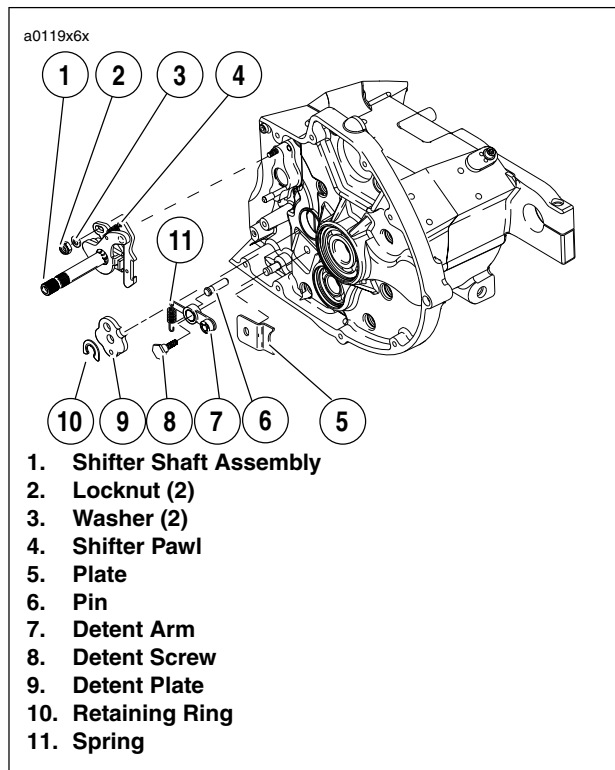
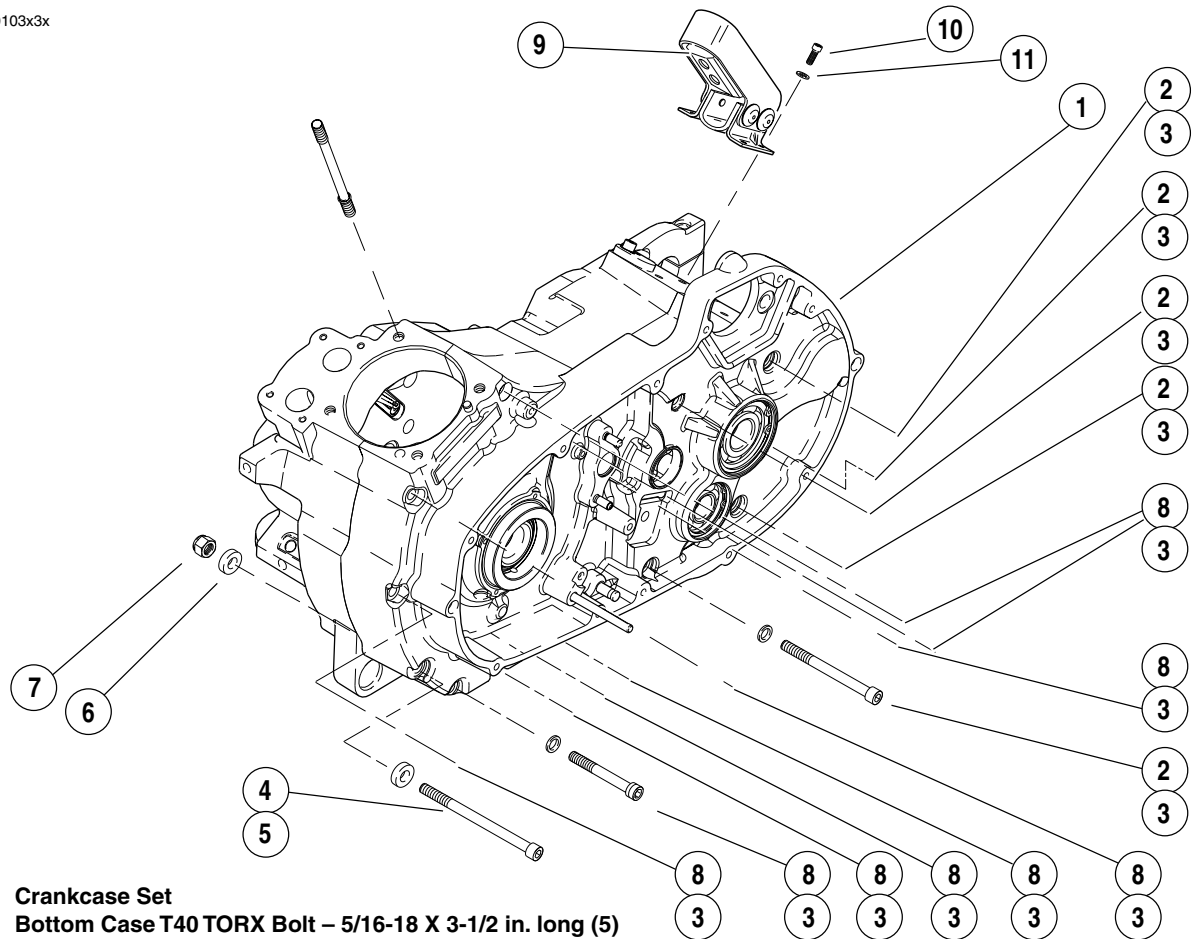

Figure 6-33. Shifter Shaft Assembly
Figure 3-35. Crankcase Hardware
9. See Figure 6-33. Detach spring (11) from groove in post.
10. Remove retaining ring (10) and detent plate (9). Discard retaining ring (10). You will need to use a **new** retaining ring for installation.
12. Remove two locknuts (2) and washers (3) which attach shifter shaft assembly (1) to studs at transmission case. Remove shifter shaft assembly (1).
13. Remove detent screw (8), detent arm (7) and spring (11).
14. See Figure 3-35. Remove all transmission case bolts.
15. See Figure 3-35. Remove rear motor mount (9) and mounting hardware (10,11).